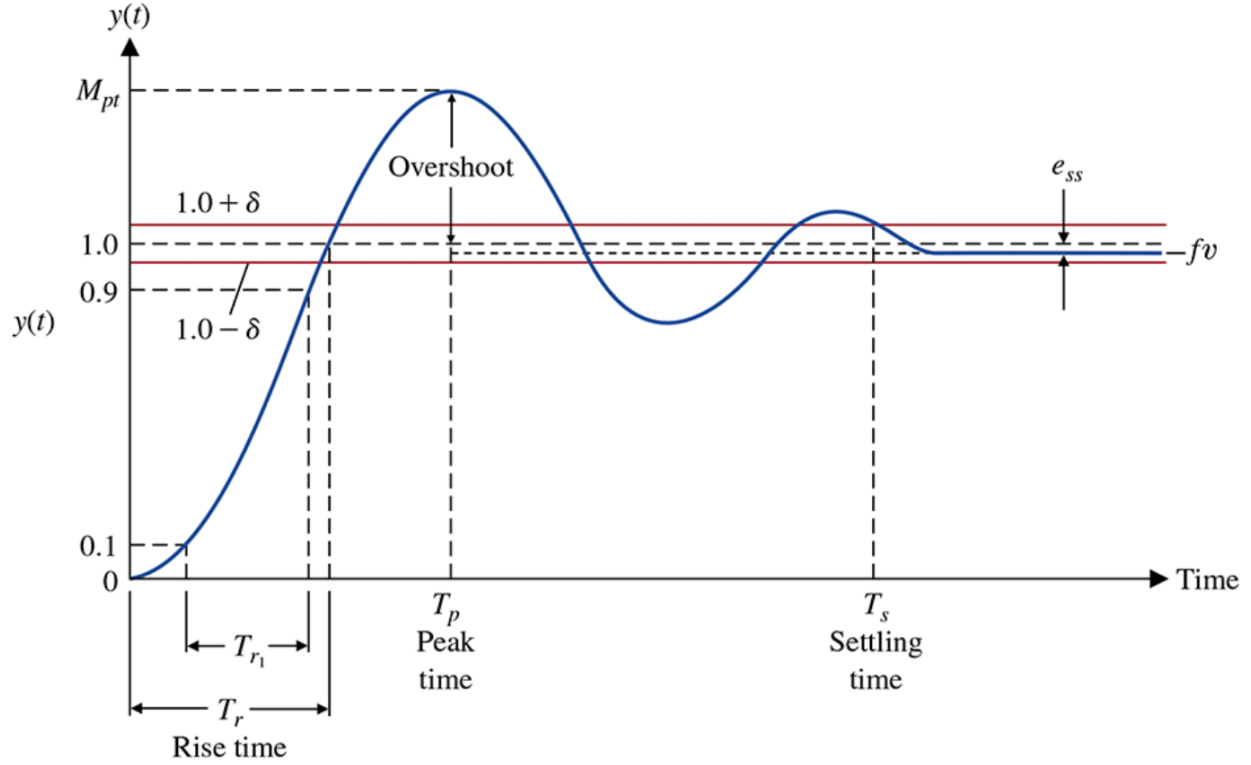

Figure 2: Generic step response of an under-damped second-order system (Figure 5.6 of Dorf and Bishop, *Modern Control Systems*, 14th edition, Pearson, 2022).
where $\cos(\phi) = \zeta$. A typical step response is shown in Fig. 2.
Definition: The *Rise Time* is a measure of the swiftness of the step response and is the time it takes for the response to rise to the height of the step input for the first time. It is marked as T_r in Fig. 2. A modified version is the **10% to 90% Rise Time**, which as the name implies, is the time it takes for the response to rise from 10% to 90% of the magnitude of the step input. It is marked as T_{r1} in Fig. 2. Thus, for example, if the height of the step input is 2 radians then T_{r1} will be the time it takes for the step response to go from 0.2 to 1.8 radians. While it is difficult to obtain an exact analytic expression for T_{r1} , the linear approximation given in Eq. (10) is reasonably accurate for $0.3 \leq \zeta \leq 0.8$.